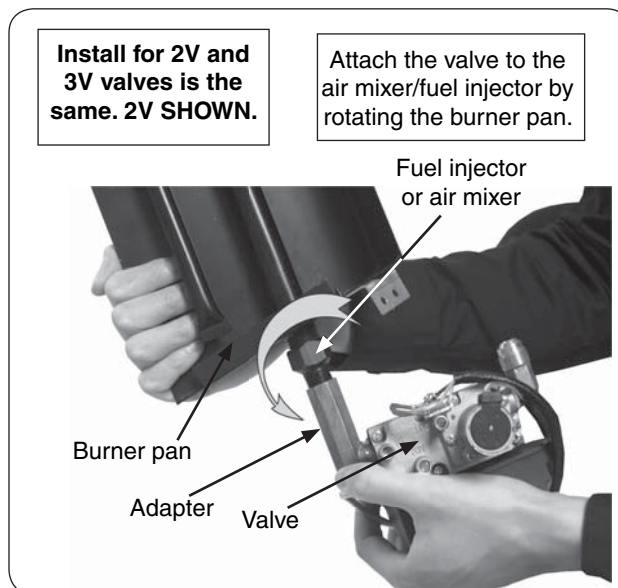

Fig. 8-2
2. Attach the adapter (pre-assembled to valve) to the fuel injector or air mixer by screwing the pan onto the adapter (Fig. 8-2). Take care not to damage the attached pilot assembly when rotating the burner pan. Be sure all connections are tight.